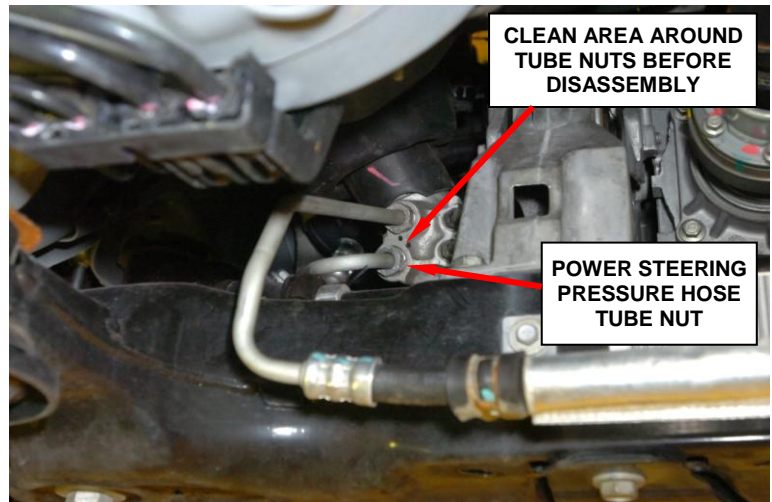

Figure 10 – Disconnect Hose at Steering Gear
4. Using Mopar Brake Parts Cleaner (or equivalent) and compressed air, clean the area where the power steering pressure and return hose tube nuts screw into the steering gear (Figure 10).
5. Unscrew the tube nut at the steering gear and then remove the power steering pressure hose from the steering gear (Figure 10).